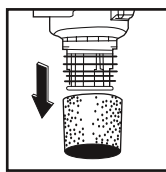

Fig. 4
1. Remove the power head and set it upside-down. Carefully remove de foam sleeve filter (Fig. 4)